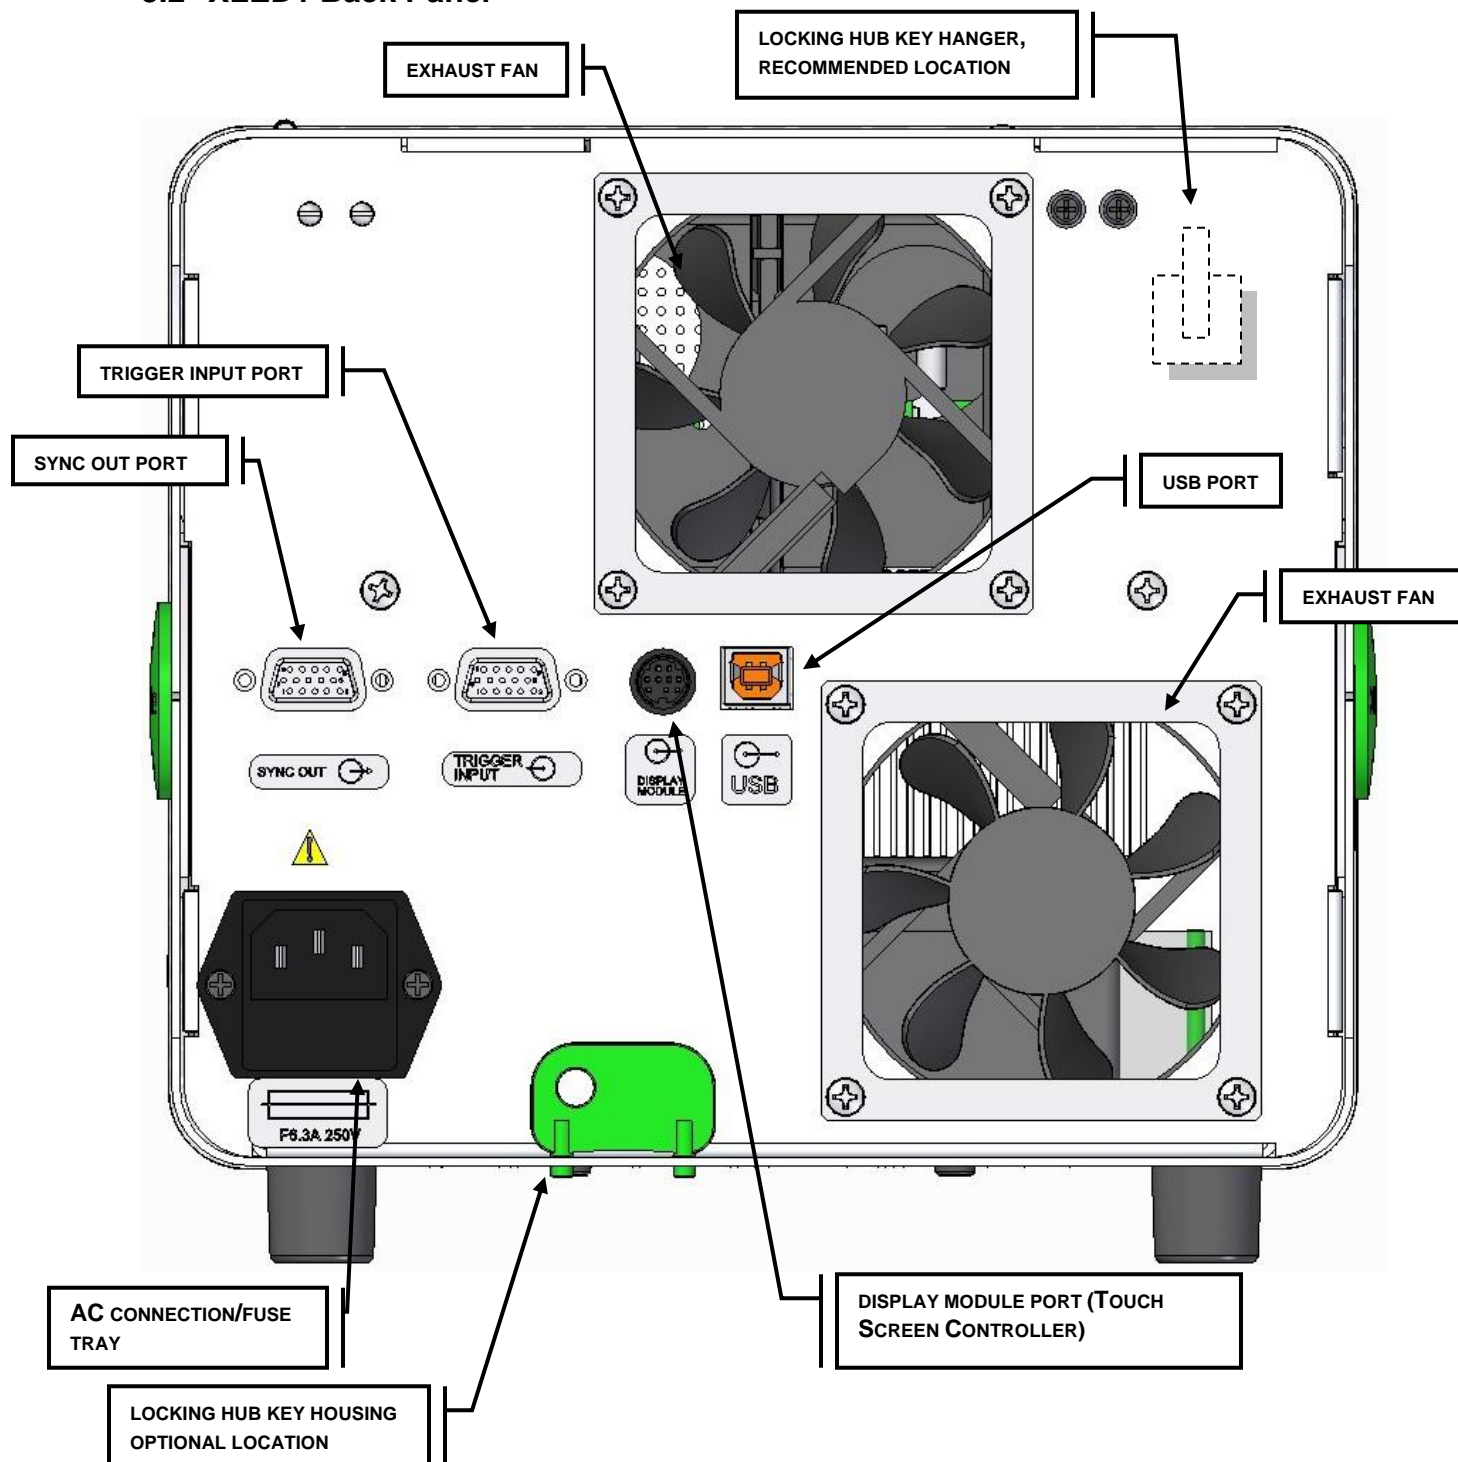

Figure 2 XLED1 Back Panel Image
Should the **X-Cite® XLED1 System** be used in a manner not specified by Excelitas Technologies, the protection provided by the equipment may be impaired. Do not attempt to connect the Touch Screen Controller to any type of electrical equipment other than the XLED1 main system as indicated in Figure 2 of this manual.
5. Locking Hub Key Hanger (refer to Figure 2 for install location)....	<input type="checkbox"/>
Excelitas Technologies recommends installing the locking hub key hanger. Bend the flexible tang into a hook shape, peel off the protective backing and affix to the recommended location shown on the rear panel in Figure 2.
If purchased, connect the optional Touch Screen Controller to the display module connection provided at the rear of the XLED1 panel. Refer to Figure 2.
If Triggering is required, connect the 15pin HD-DB15 trigger I/O breakout cables to the trigger input and sync output connections located on the back XLED1 panel, refer to Figure 2.